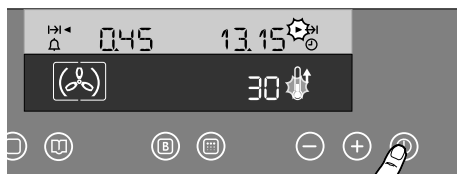

Fig. 14
2. Touch the "Time Function" control  twice: the symbol  flashes near the "End of Cooking Time" symbol  (Fig. 14).